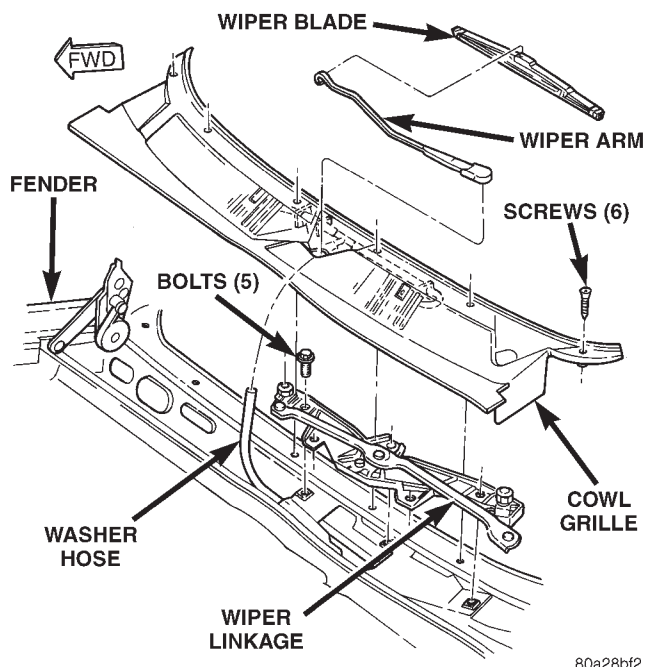

Fig. 9 Wiper Linkage Module Remove/Install
- (1) Disconnect and isolate the battery negative cable.
- (2) Remove the wiper arms as described in this group.
- (3) Remove the screws that secure the cowl plenum cover/grille panel to the cowl top panel.
- (4) Lift the cowl plenum cover/grille panel from the vehicle far enough to access the windshield washer nozzle plumbing.
- (5) Disconnect the windshield washer supply hose from the tee fitting.
- (6) Remove the cowl plenum cover/grille panel from the vehicle and set it aside.
- (7) Remove the five screws that secure the wiper module to the cowl mounting bracket (Fig. 9).
- (8) Move the wiper module as required to access the wiper motor wire harness connector.